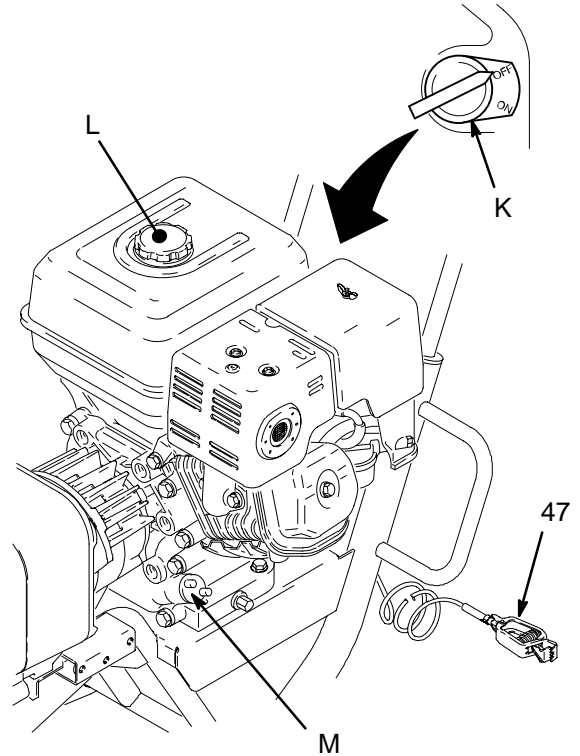

Fig. 3
4. **Check the engine oil level.** Refer to the Honda engine manual, supplied. This is a summary of the information: Remove one of the oil fill plugs (M); the oil should be almost overflowing. See Fig. 3. Add oil as necessary.
Always turn the engine switch (K) to off before refueling. (Fig. 3)
Do not overfill the tank. Make sure the gas fill cap (L) is securely closed after refueling. (Fig. 3)